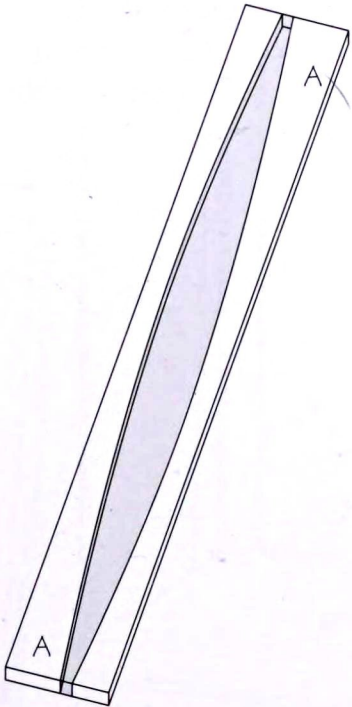
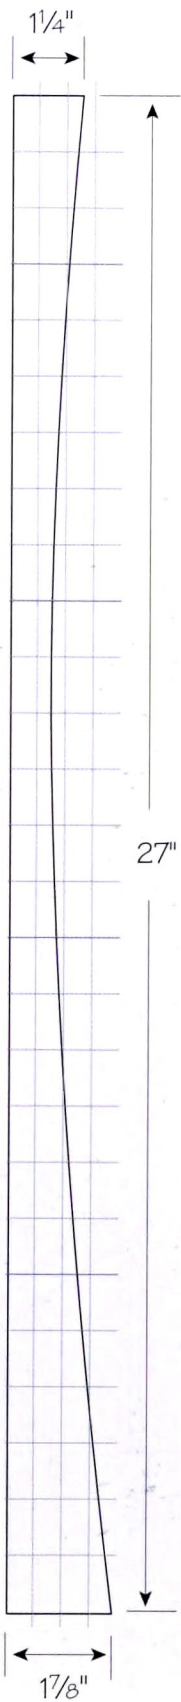

Figure 1
Figure 2
2. You will saw two legs from each 3½" piece, as shown in figure 1. Using figure 2 as a guide, make a leg pattern from matte board or thin plywood. (See Fair Curves and Patterns on page 12 for useful tips.)